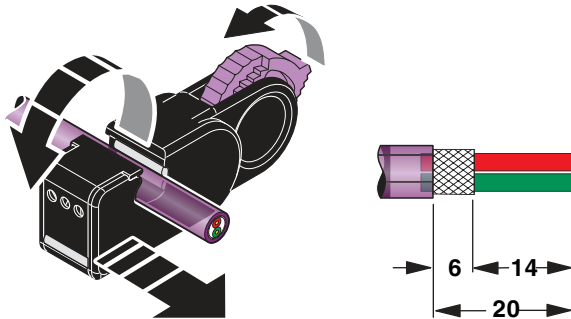

Figure 4 Stripping
To ensure reliable operation, observe the recommended stripping lengths in Figure 4.
- Strip the cable as per the specified stripping lengths (see Figure 4).